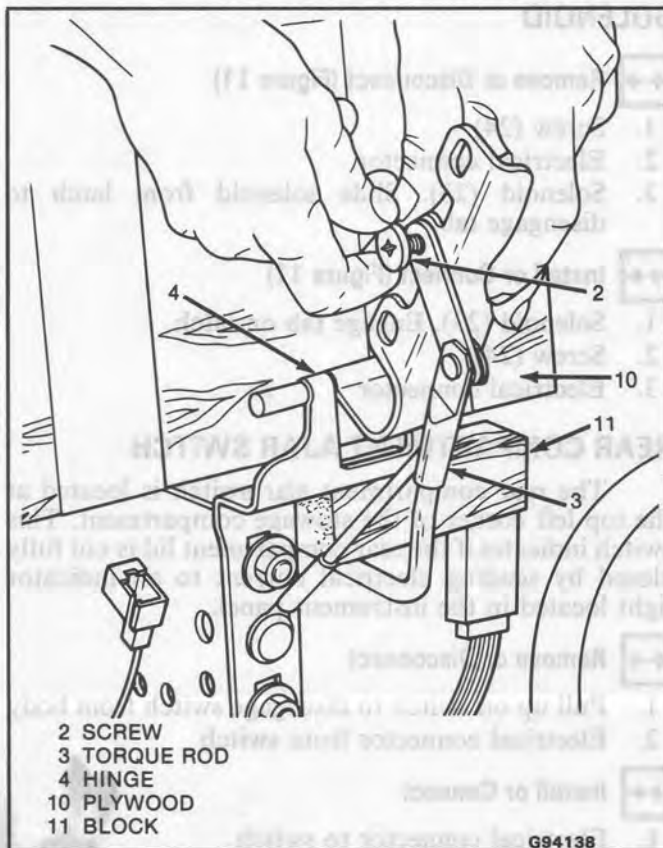
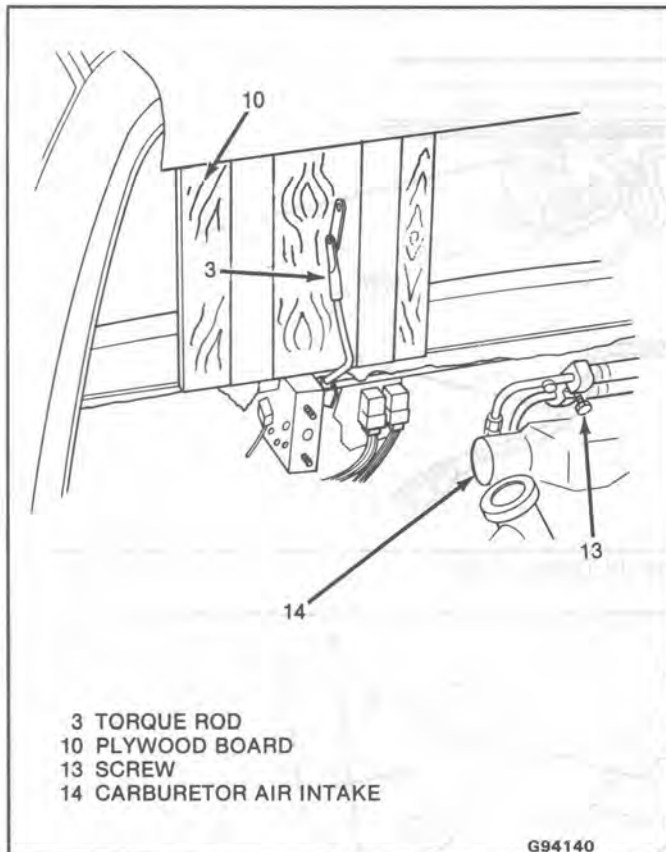

Fig. 4-Attaching Rear Compartment Lid Torque Rod
Fig. 6-Rear Compartment Lid Torque Rod Detached
**CAUTION:** To prevent possible personal injury or damage to the vehicle, tape plywood board to rear glass above hinge area (Fig. 6). Also, install wood blocks between hinge and torque rod as shown in Figure 4 when opening lid.